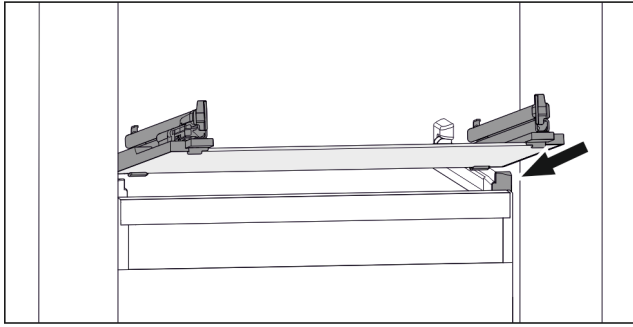

Fig. 140 Example illustration of glass shelf
- ▶ Position glass shelf at an angle behind the stoppers. (see Fig. 140)